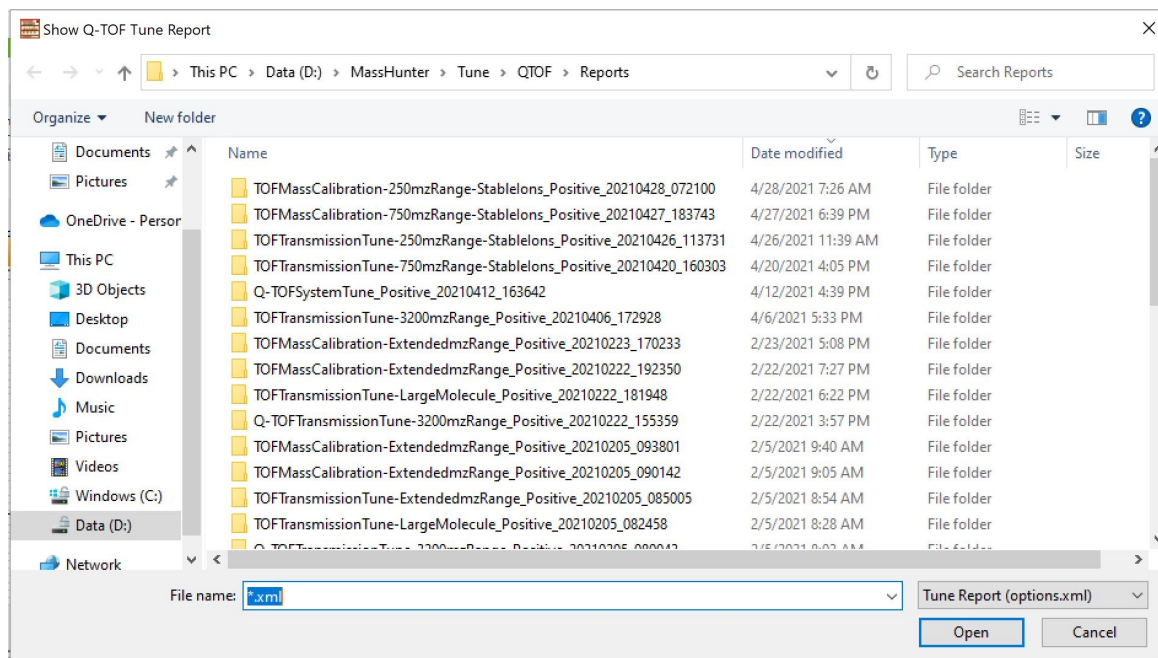

Figure 17. Location of tune reports
- Or open the **Reports** folder (Figure 17) and double-click the report you intend to view.